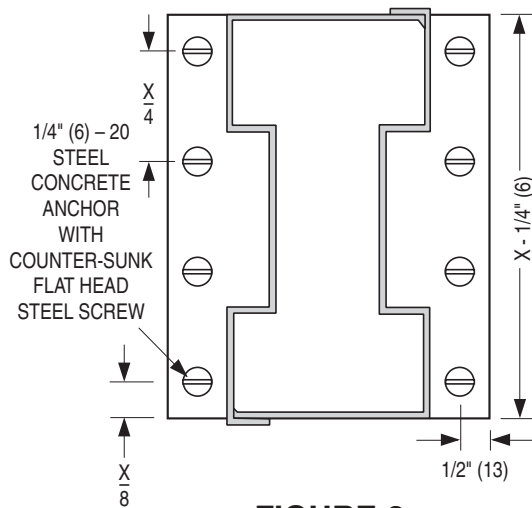

FIGURE 3
4. Drill holes in caps and concrete for anchoring steel mullion caps with 1/4" (6) – 20 x 5/16" (8) steel screws and 3/8" (10) diameter x 1" (25) concrete expansion anchors. The eight holes to secure the cap (**Figure 3**) are equally spaced, $X \div 8$ from both ends and 1/2" (13) inwards of each side.